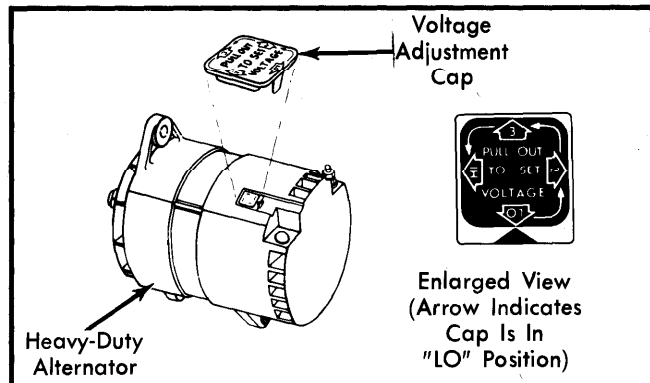

Fig. 7 Voltage Adjustment Cap for 100 Amp. Heavy-Duty Alternator
NOTE — Cap is marked on 4 edges "LO", "2", "3" and "HI" positions. After adjusting cap position, check battery condition a week later to see if undercharged condition still exists. If so, reposition cap to next higher position and recheck in another week. See Fig. 7.
2) If voltage does not exceed 15 volts, adjust voltage to a lower value, by removing adjusting cap and rotating it to next lowest value. Reinsert cap into end frame. Check battery in a week and reset adjusting cap to next lower value, if still overcharged. See Fig. 7.